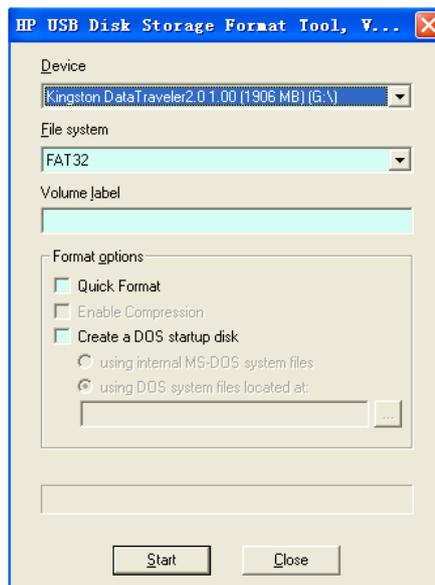

Fig. 4-1 USB format tool
- In Fig. 4-1, select the target USB flash disk which needs to be formatted.